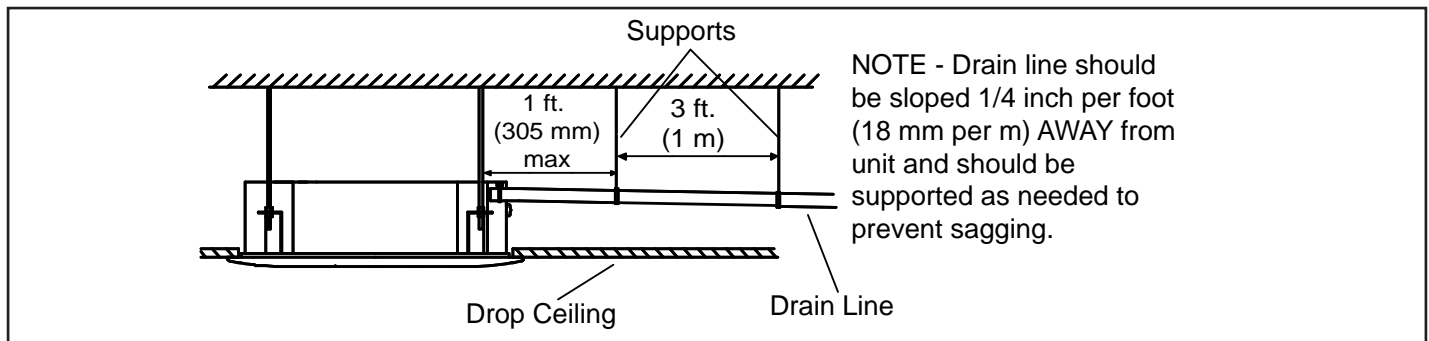

Figure 6. Sloped Condensate Drain -- Single Unit
3. See Figure 6 for applications including a single unit and a single drain. In this case, ensure that the drain line is properly sloped (no less than 1/4 inch per foot) and condensate lines are routed to ensure moisture is drained away from the indoor unit.